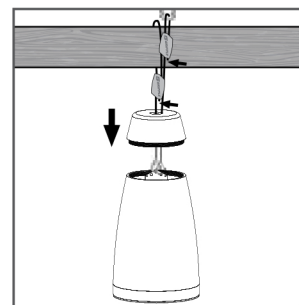

FIGURE 9: SCREW ON COVER
6. After height adjustment is final, trim any unneeded extra cable tail wires with trimmer suitable for 2mm (0.077 in) diameter stranded aircraft-type cable. Screw back on top cover of speaker after speaker wire is connected. (See figure 9).